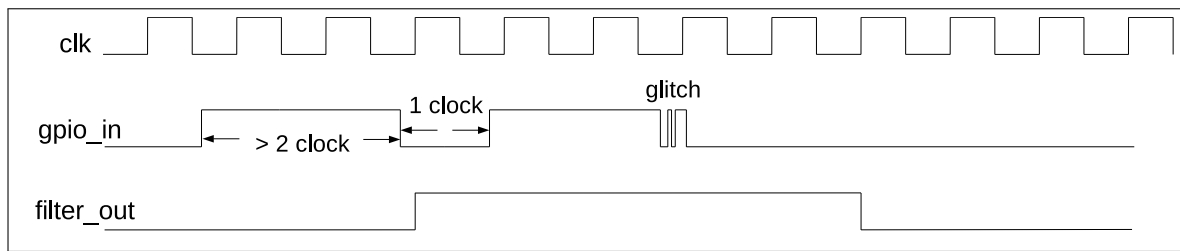

Figure 6-4. GPIO Filter Timing of GPIO Input Signals
2. Optionally enable the GPIO Filter for pin input signals by setting `IO_MUX_GPIOx_FILTER_EN`. Only the signals with a valid width of more than two clock cycles can be sampled, see Figure 6-4.